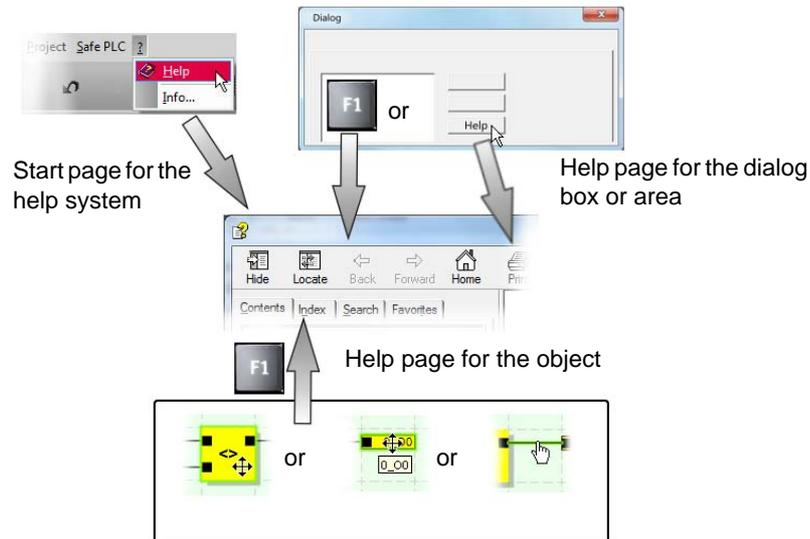

Figure 1-1 Calling the online help in the configuration software MSIsafesoft
- In the online help for the MSIsafesoft safe configuration software (see also Figure 1-1) and for each of the safe functional blocks